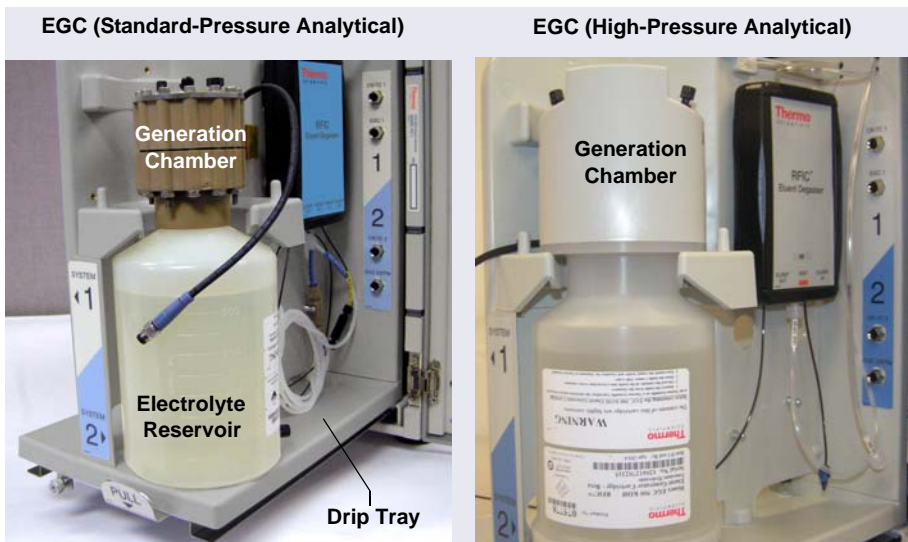

Figure 4-24. Dionex EGC Service Position
4. Turn the Dionex EGC upside down and place it on the EG drip tray (see Figure 4-24). This is the “service position” for the cartridge.
4. Lift the Dionex EGC out of the holder, turn it upside down, and place it on the drip tray in the service position (see Figure 4-24).